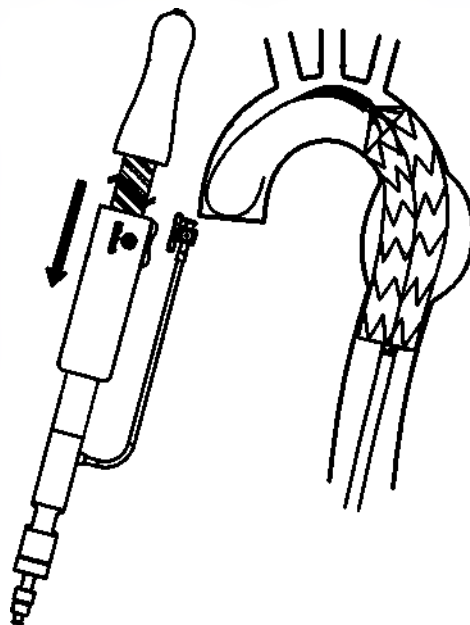

Fig. 8 Rapidly deploy the stent graft
- Rapidly deploy the stent graft. Hold the front grip of the delivery system stationary, then unlock the trigger and pull the slider grip along the screw gear to fully deploy the stent graft. (Fig. 8)